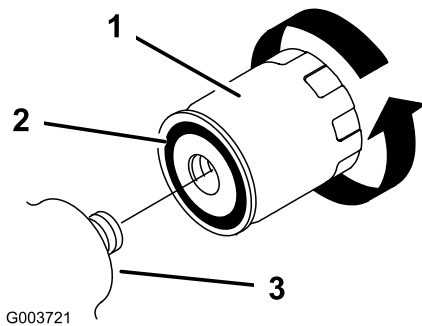

Figure 36
5. Remove the old filter (Figure 36) and wipe the surface of the filter adapter clean.
6. Apply a thin coat hydraulic fluid to the rubber gasket on the replacement filter (Figure 36).
7. Install the replacement hydraulic filter onto the filter adapter (Figure 36). Tighten it clockwise until the rubber gasket contacts the filter adapter, then tighten the filter an additional 1/2 turn.